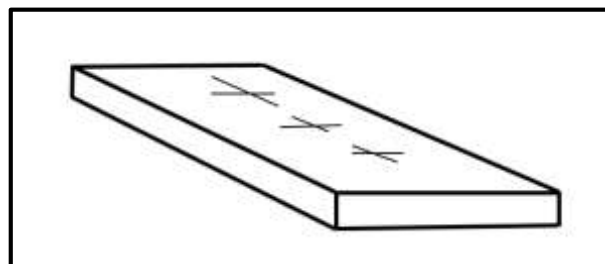

FIGURE 4.4
- C Newton (N)
- D No unit (1)
4.4 Identify the template shown in FIGURE 4.4 below.